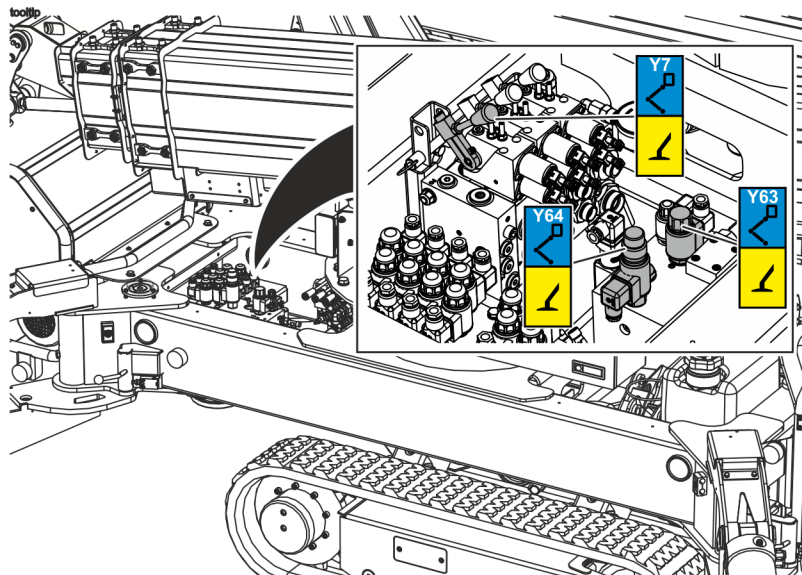

Fig. 196: Valves for outriggers
Release the control lever (Fig. 196/Y7).
11. ➤ Screw the release valve (Fig. 196/Y63) all the way in and completely unscrew and remove the pressure relief valve (Fig. 196/Y64).
- Make sure that for normal mode the valves (Fig. 196/Y63, Y64 and Y7) are in the initial position.